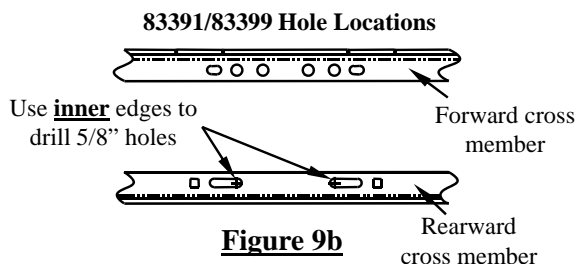

Figure 9b
- 11b. **For 83391 & 83399** use the **inner** edges of the long slots in the rearward cross member as a template to drill 5/8" diameter holes through the truck bed as shown in Figure 9b. Due to the fuel tank, not all holes can be drilled from under the vehicle, but should be done later from inside the bed.